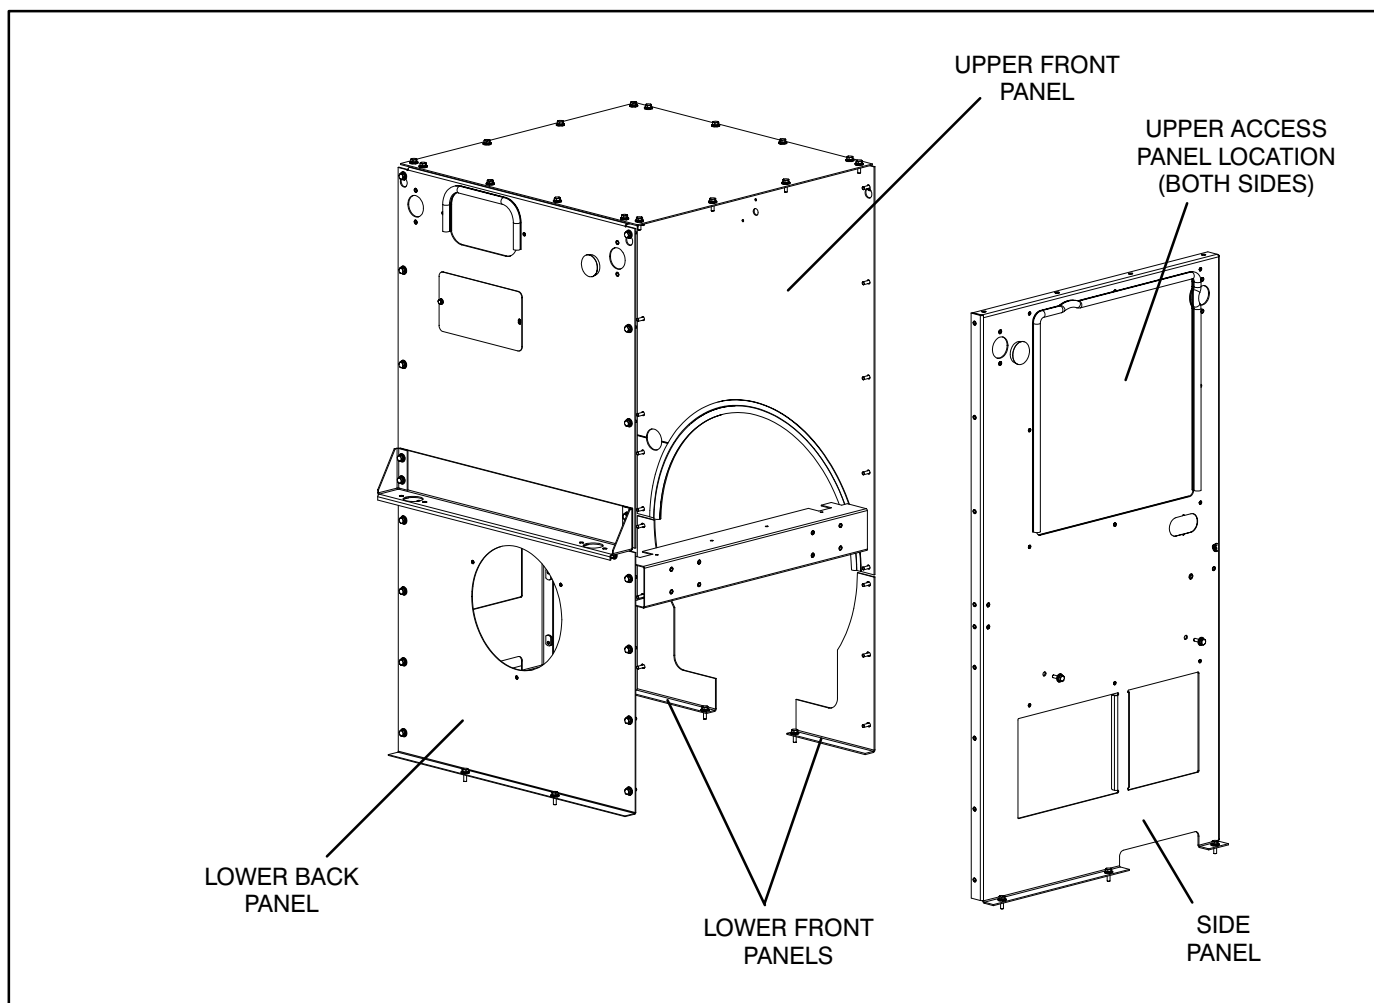

FIGURE 4-7. CONTROL HOUSING ASSEMBLY
3. Remove the lower back panel of the control housing (see Figure 4-7).
2. Remove the lower back panel, the two lower front panels and the upper access panels of the control housing assembly (see Figure 4-7).
38. Verify that all connections are proper and secure and then install all control housing panels (see Figure 4-7).